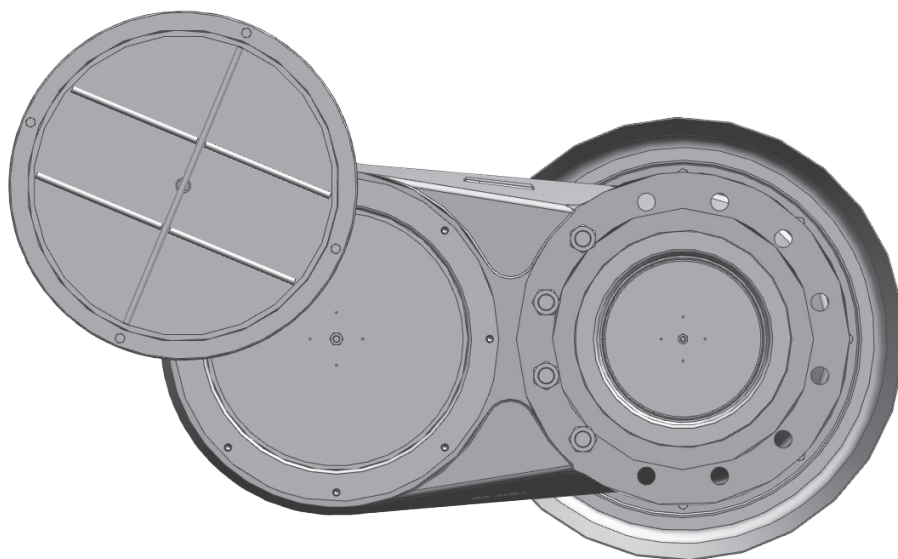

Figure 3. Valve Vacuum Bore
6. Remove all vacuum element screws from the adapter except for the furthest outboard. Loosen the outboard screw only enough to allow the vacuum flame element assembly and gasket to rotate away from the valve vacuum bore. (Figure 3)
- g. Remove all vacuum element screws from the body except for the furthest outboard. Loosen the outboard screw only enough to allow the vacuum flame element assembly and gasket to rotate away from the valve vacuum bore. (Figure 3)